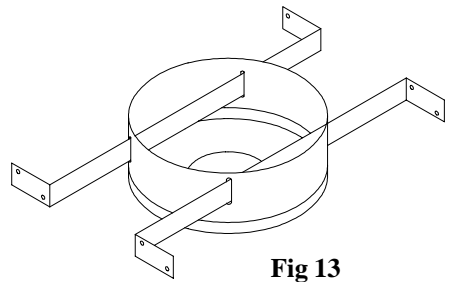

Fig 13
1. **Description.** The **Bucket Support** (shown in Figure 13) is for properly supporting the B-vent between 16 or 24-inch O.C. joists or rafters, or for providing a transition fitting